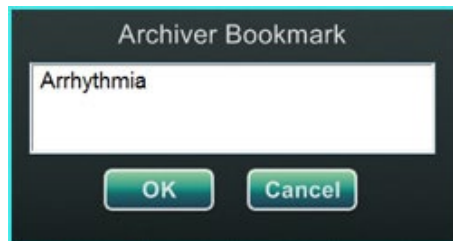

Figure 22: Archiver Bookmark dialog
3. The Archiver Bookmark dialog (**Figure 22**) displays with a blank space for annotations. Type an identifying note in the space. You may add as many bookmarks as desired.